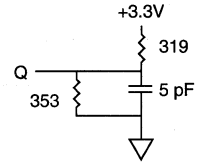

Fig. 2 OUTPUT LOAD EQUIVALENT
- Output loading is specified with CL = 5pF as in Fig. 2. Transition is measured ±200mV from steady state voltage.